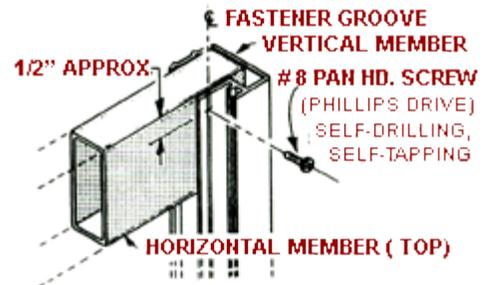

FIGURE 3
2.) After laying out the horizontal members, locate and drill two (2) 17/32 minimum diameter holes in the top horizontal. Locate each trolley hole at dimension "A" from the end and 1" from the inside face. See chart above for recommended dimension.
3.) With the top, intermediate and bottom horizontals properly fitted and spaced in the verticals, secure the grid at each of the four corners using one (1) #8 self-drilling, self-tapping fastener. The fastener should be located in the extruded pilot groove as shown Fig. 3